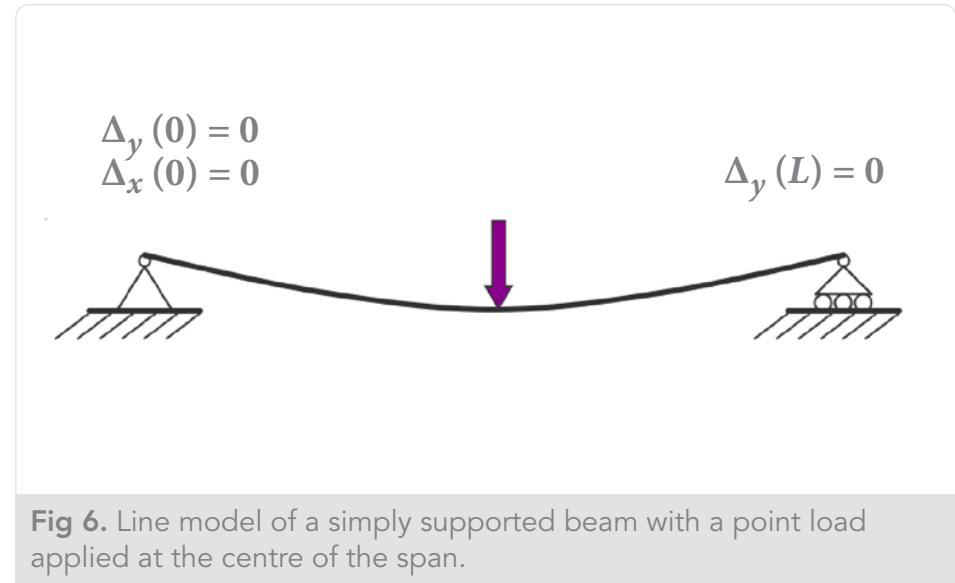

Fig 6. Line model of a simply supported beam with a point load applied at the centre of the span.
- Applying the vertical point load anywhere along the beam does not change the position of the two ends. They simply rotate to accommodate beam flexure (Fig. 6).
- If the vertical load is applied at midspan, the maximum displacement and flexure will coincide with the point of application (Fig. 6).